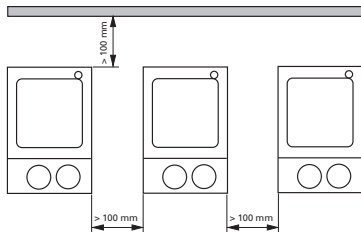

Fig. 2
- Observe the minimum distances between devices, between the device and the wall as given in the Fig. 2 and above the assembly (min. 800mm)